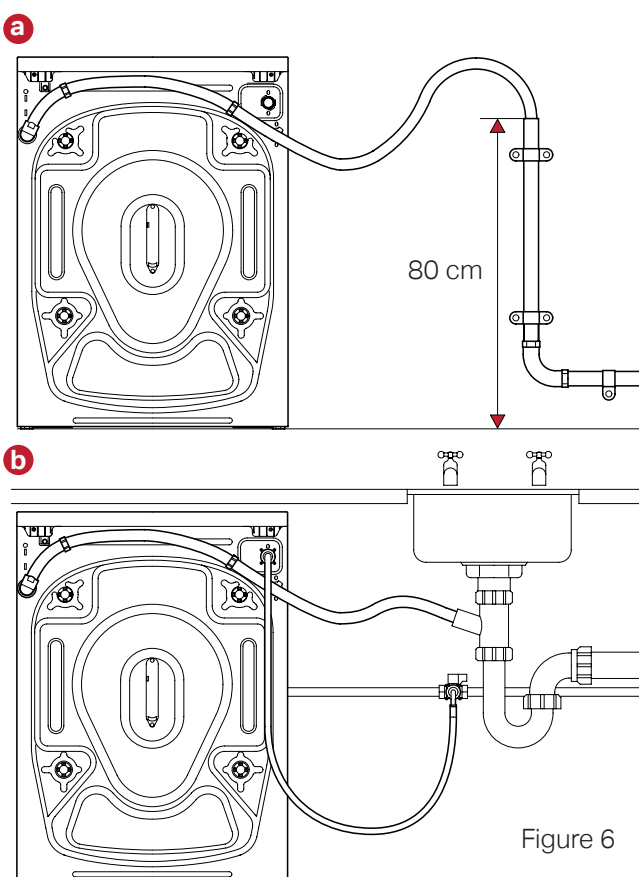

Figure 6
- 1 The drain hose can be connected to a standpipe (see Figure 6(a)).
- 2 The drain hose can be connected to a household sink trap (see Figure 6(b)).